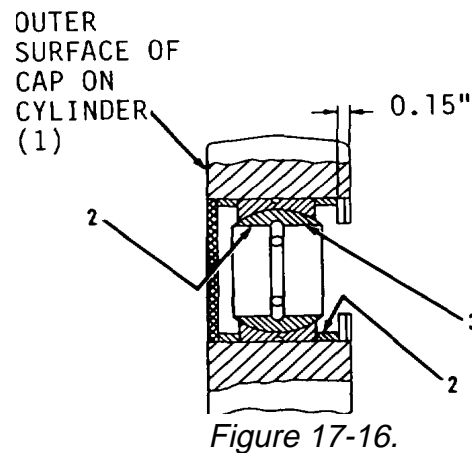

Figure 17-16.
15. Using bearing driver, install one of two rings (2, Figure 17-16) to a depth of 0.15 inch from outer surface of cylinder (1).
16. Using bearing driver, install new bearing (3) in center of cylinder (1) cap.
17. Using bearing driver, install one of two rings (2) immediately next to bearing (3). There should be a depth of 0.15 inch from outer surface of cylinder (1) to one of two rings (2).